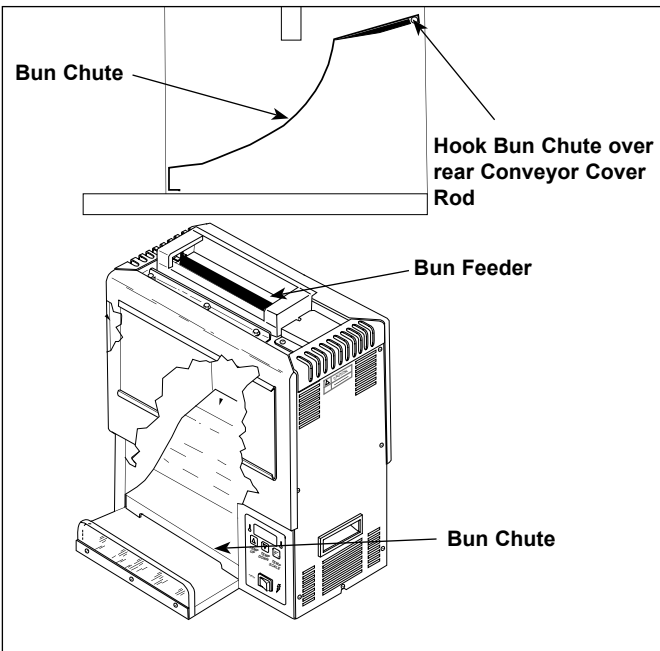

Figure 1. Installing Bun Chute
- bun chute (Figure 1)
- bun feeder (Figure 1)
1. Install the bun chute (Figure 1).
2. Install the bun feeder. The bun feeder clips fit over the tip of the platen and retain the release sheet (Figures 1 & Figure 9 on page 11).